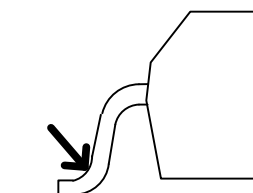

Figure 1: Total Resistance
- 12) The resistance is defined as the total resistance measured from a point of the lead next to the solder joint, assuming that the two I_P+ pins (and I_P- pins) have the same potential (see Figure 1). This definition corresponds to the effective resistance used to estimate the Joule heating, calculated with $R \times I_P^2$.